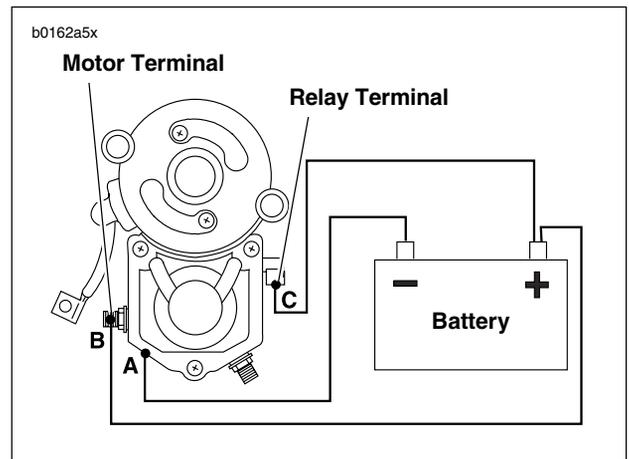

Figure 5-13. Hold-In Test
- See Figure 5-13. With test leads still connected in the manner specified in the previous SOLENOID PULL-IN TEST, **disconnect solenoid motor terminal/battery negative test lead (B) at negative battery post only; reconnect loose end of this test lead to positive battery post instead.**